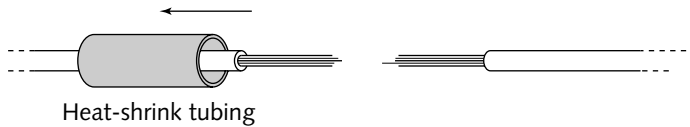

FIGURE 9-4: Thread heat-shrink tubing over one of the wires.
- Slip a 1" section of heat-shrink tubing over one of the wires (see Figure 9-4).